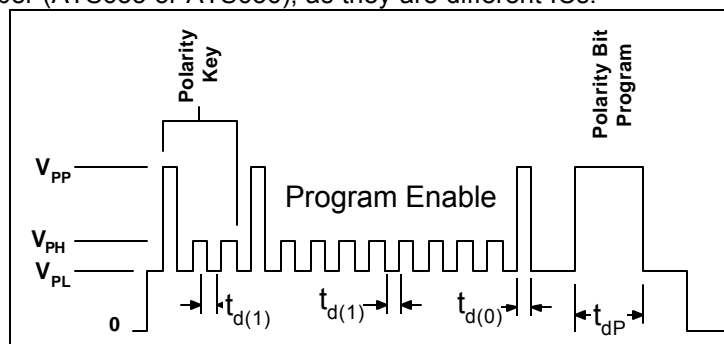

Figure 6 – Polarity Bit Programming
**Polarity Bit Programming.** If the desired switchpoint has negative polarity, the polarity bit must be programmed. To do this it is necessary to first apply the polarity key sequence before the program key sequence (Figure 6). Finally a  $V_{PP}$  pulse of duration  $t_{dP}$  must be applied to program this bit, the programming is not reversible. The polarity bit is for adjusting programming range only and will not affect the output polarity. The proper output polarity device is determined by ordering the correct part number (ATS635 or ATS636), as they are different ICs.